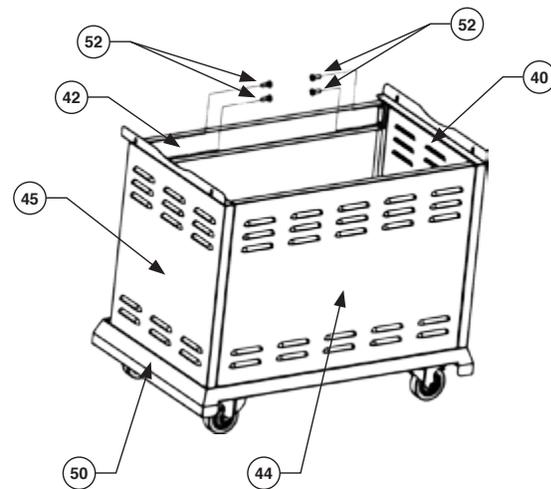

FIG 4
4. Locate the Beam (42) between Left Plate (40) and Right Plate (45) with $\frac{1}{4}$ -20* $\frac{1}{2}$ Bolt (52). As shown in FIG 4.